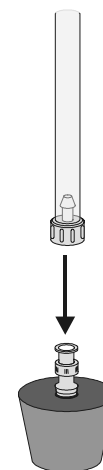

Figure 3
9. When incubation has finished, connect the free-end of the plastic tubing to the connector in the rubber stopper as shown in Figure 3.